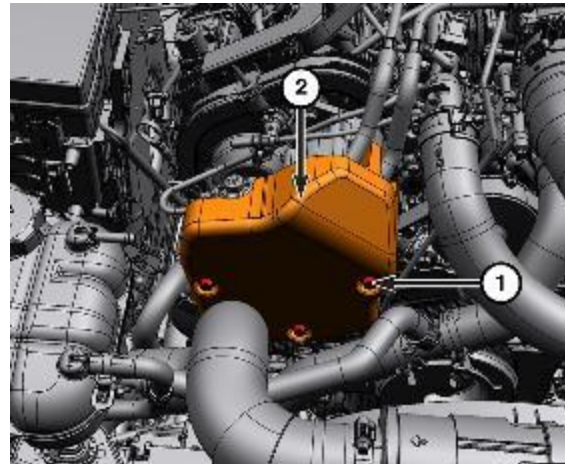

Figure 24 – Cover Screws
7. Remove the screws (1) that secure the cover (2) for the high-pressure fuel pump (Figure 24).